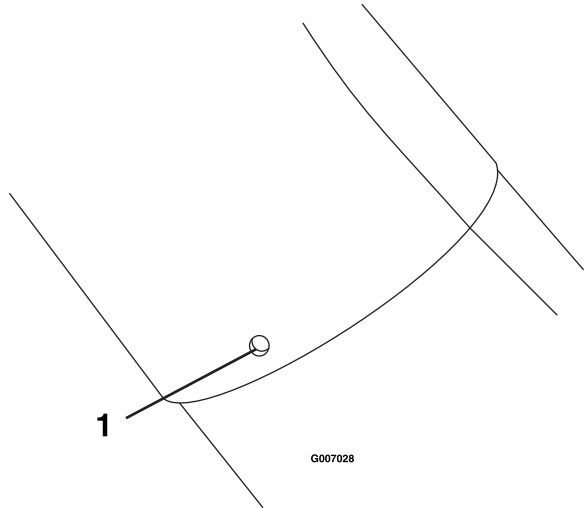

Figure 21
26. If the lower tube is replaced, drill three 7/32 inch holes in the lower tube using the upper tube holes as reference. See Figure 21.